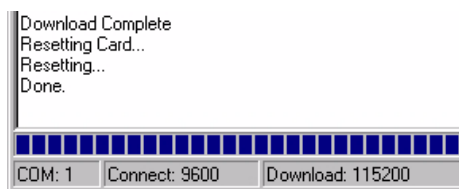

Figure 33: Update Process Complete
- The receiver should finish downloading and reset. The process is complete when “Done.” is displayed in the main display area, see *Figure 33*.